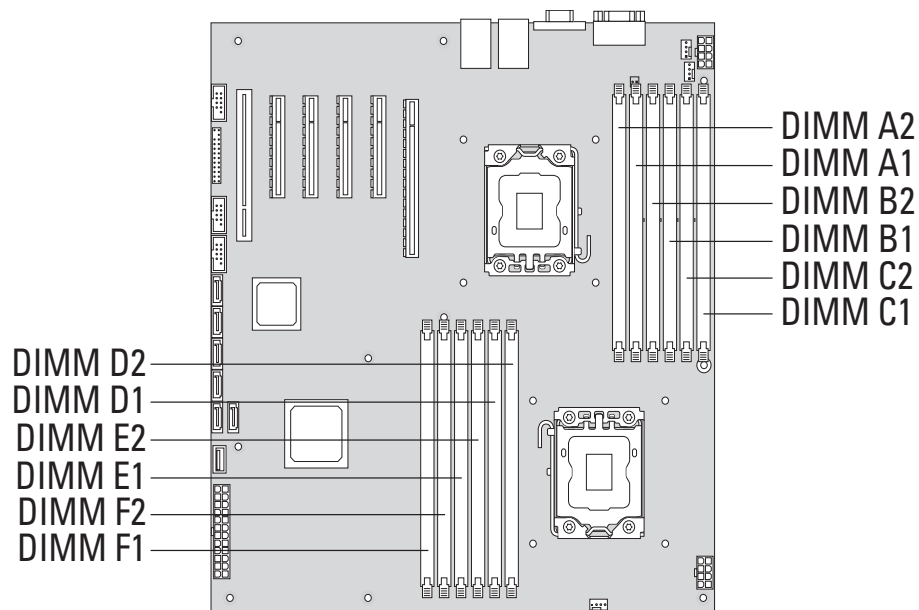

Figure 23. DIMM Sockets
6. Locate the DIMM sockets (see Figure 23 on page 29).